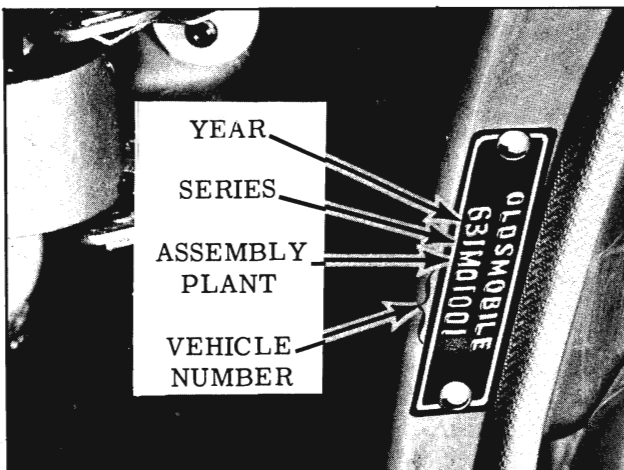

Fig. 1-2 Vehicle Identification Number Plate
The 1963 vehicle identification number plate is located on the left front door pillar as illustrated in Fig. 1-2. Each identification number is prefixed by three numbers and a letter. The first two numbers (63) indicate the year (1963). The third number designates the series.